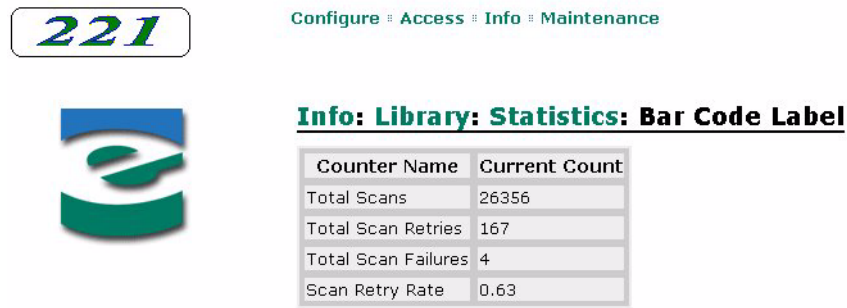

Figure 6-28 Remote management utility – Bar Code Label Statistics page
4. Click on Bar Code Label Statistics. A page similar to Figure 6-28 appears.